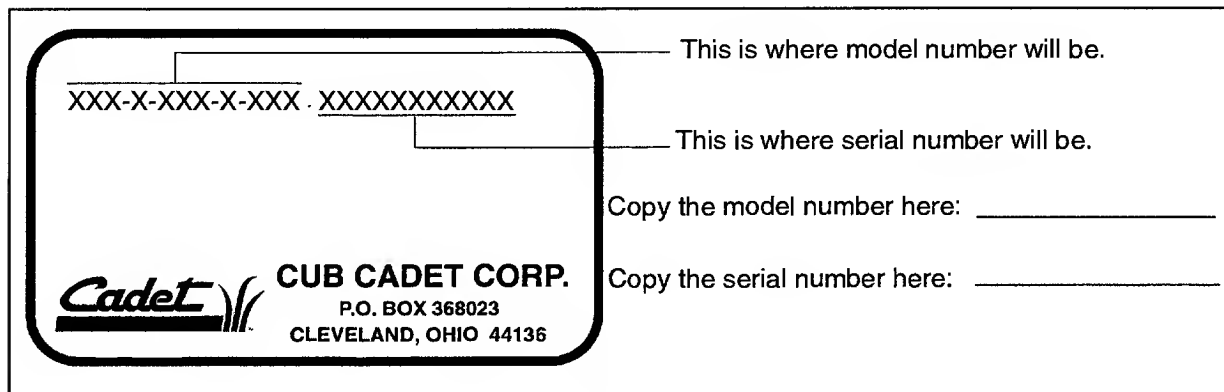

Figure 1
- The model plate will look like Figure 1.